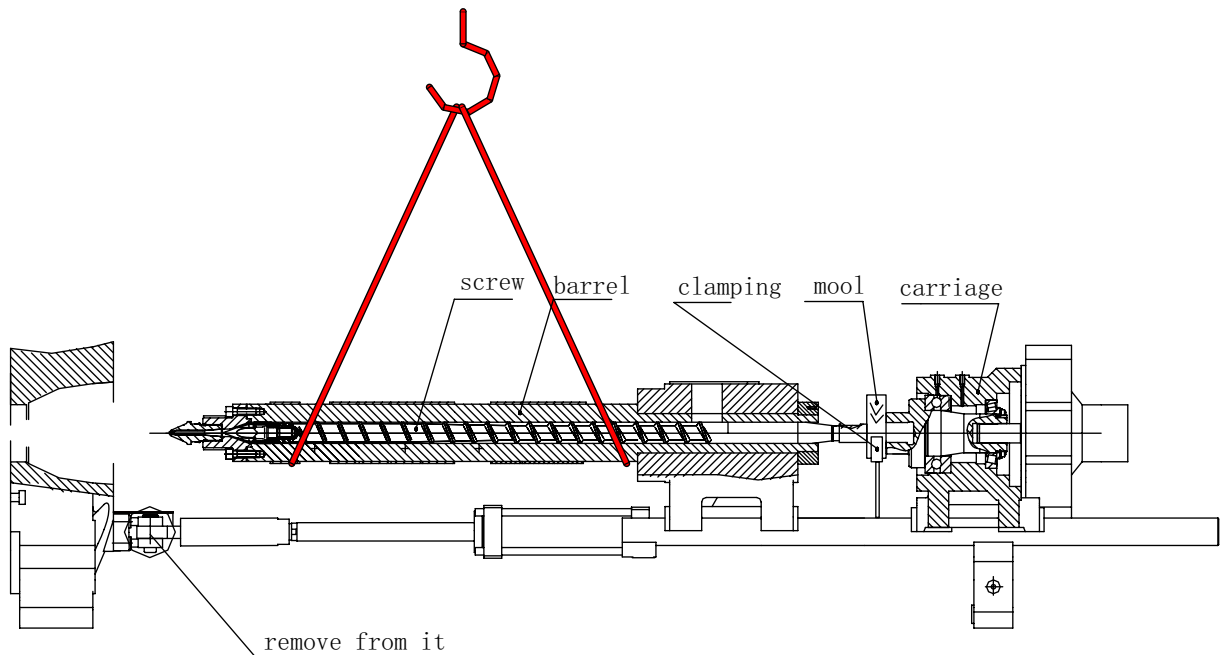

Fig.4-8
- 4) Insert a wood log between the carriage and back plate of carriage; take the wood log with clamp rather than hand, see Fig.4-8